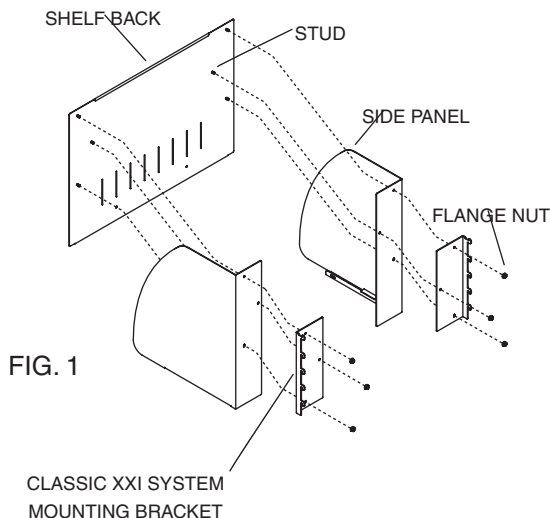

FIG. 1
1. Assemble the cabinet back, the left and right side panels and the mounting brackets together by inserting the holes in the side panels and mounting brackets over the studs on the cabinet back (Figure 1 below). Loosely fasten the parts together with (6) flange nuts. **DO NOT** tighten the nuts at this time.